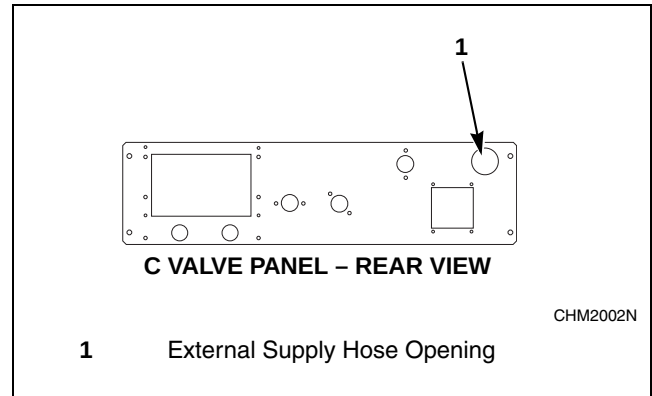

Figure 45
1. Facing the rear of the machine, locate the 1.5 inches (38 mm) opening found at the upper right-hand side of the valve panel. Refer to *Figure 45*.